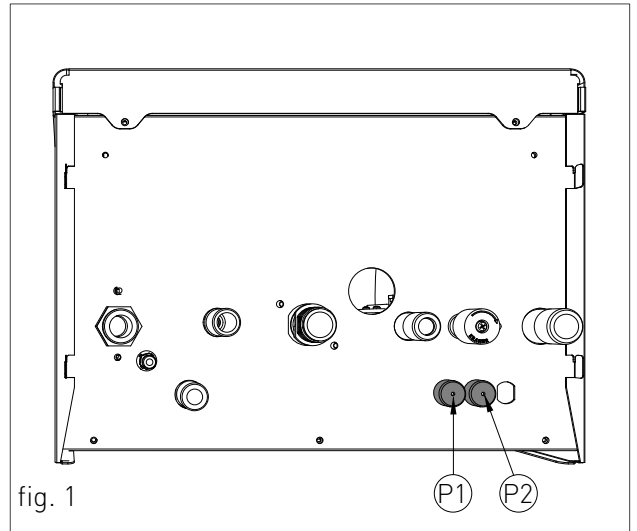

fig. 1
- > loosen the two screws and remove the plate "A" (see fig. 1).
- > after removing the plate, connect the electrical cables to terminal block "B" (see fig. 1):
The cables should be inserted inside the boiler using the fairleads 'P1' and 'P2' placed on the hydraulic connections bottom plate (see fig. 1). Make a hole on the fairlead, smaller than the cable diameter, to make sure that the air cannot pass through.
- › The discharge duct must be perpendicular with the opposite internal wall of the chimney or of the fumes exhaust duct (fig. 1).